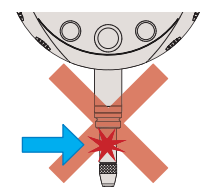

Fig. 2
1. Do not move the spindle rapidly nor apply force in the transverse direction, otherwise operation and accuracy may be adversely affected. **(Fig. 2)**